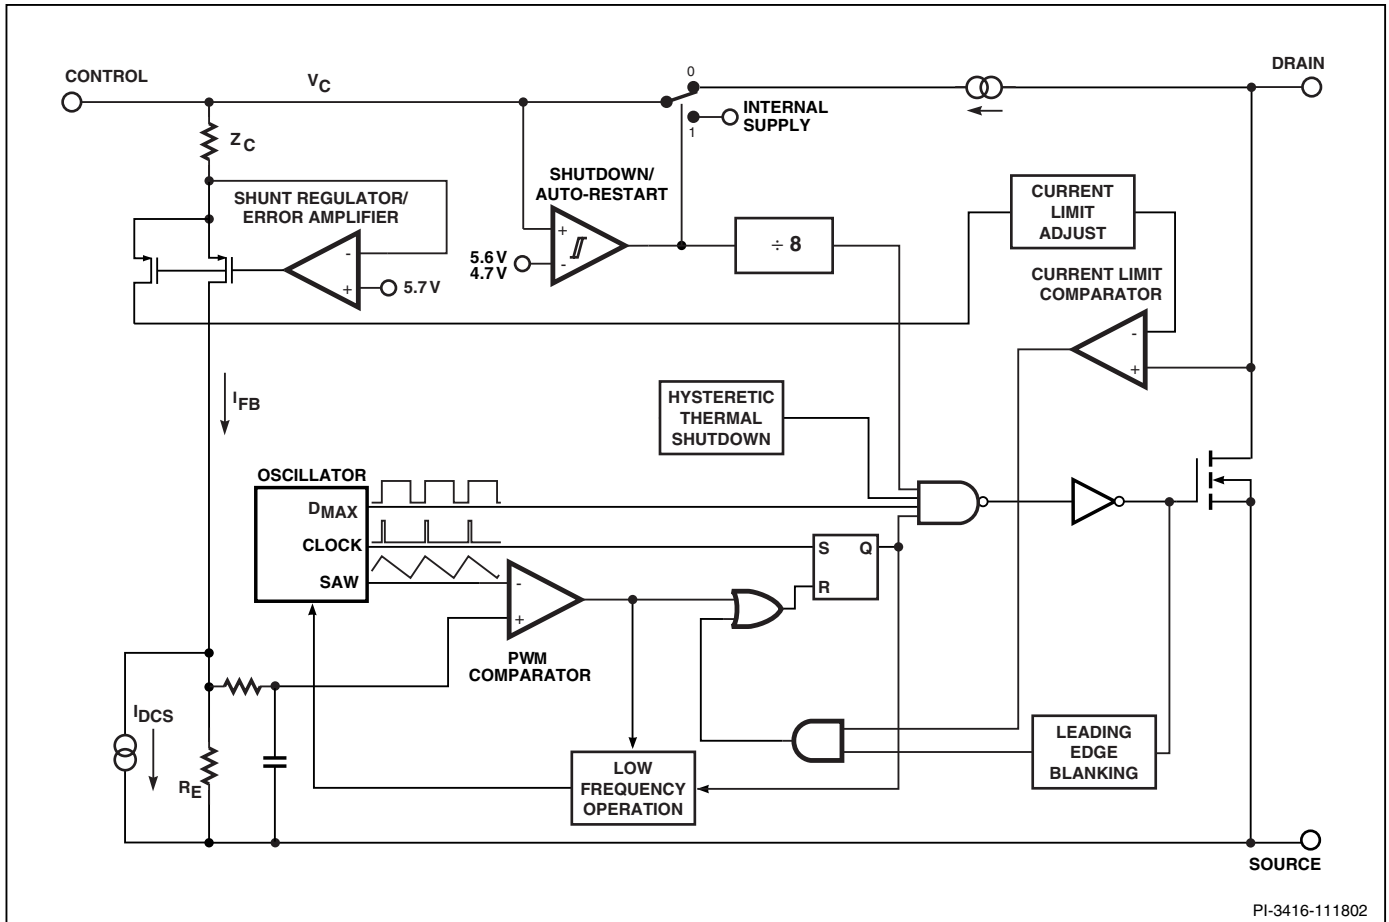
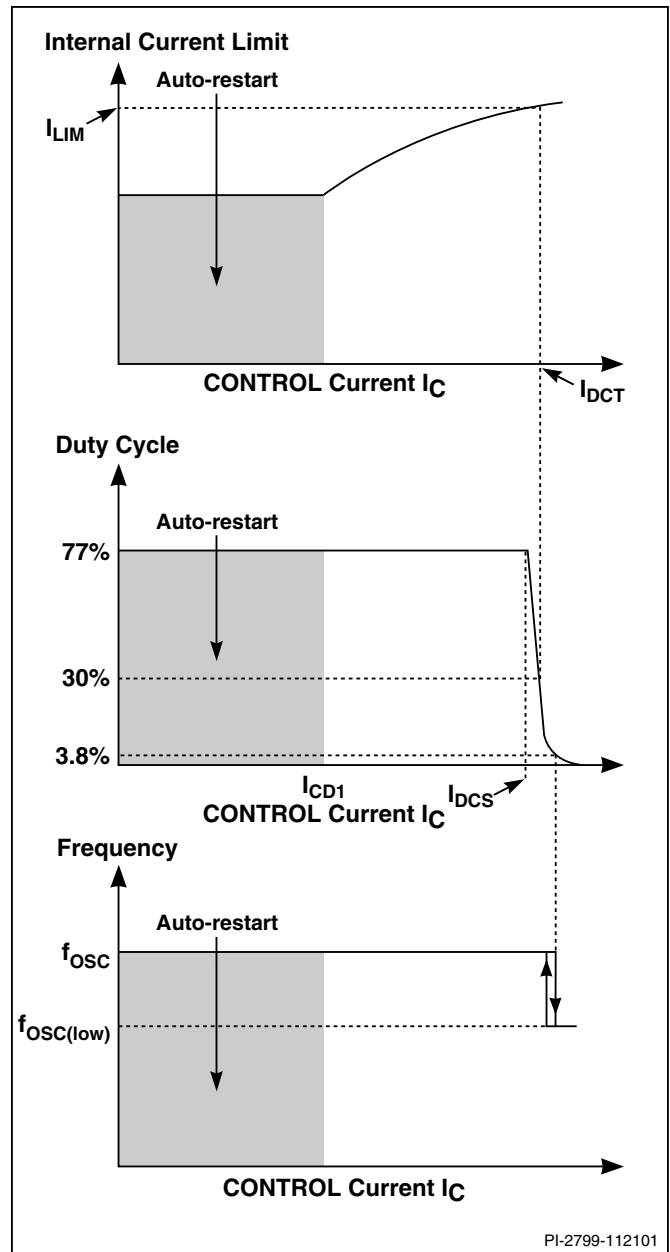
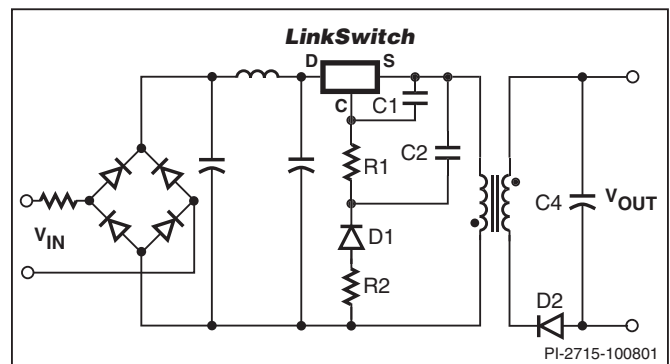
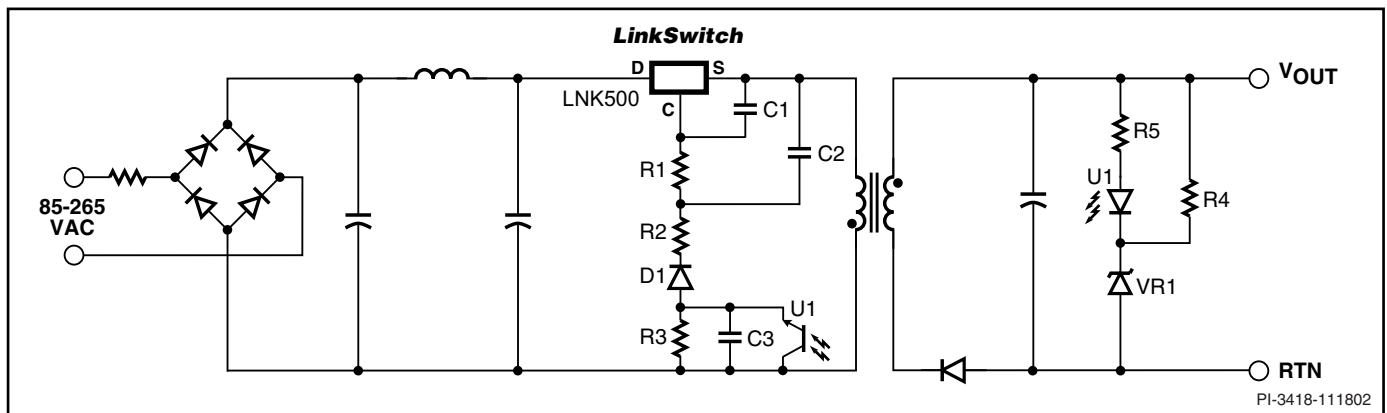

Figure 2. Block Diagram.
Figure 4. CONTROL Characteristics.
Figure 5. Power Supply Outline Schematic.
Figure 6. Power Supply Outline Schematic with Optocoupler Feedback.
The duty cycle, current limit and operating frequency relationships with CONTROL pin current are shown in Figure 4. Figure 5 shows a typical power supply outline schematic which is used below to describe the LinkSwitch operation.
During power up, as  $V_{IN}$  is first applied (Figure 5), the CONTROL pin capacitor C1 is charged through a switched high voltage current source connected internally between the DRAIN and CONTROL pins (see Figure 2). When the CONTROL pin voltage reaches approximately 5.6 V relative to the SOURCE pin, the high voltage current source is turned off, the internal control circuitry is activated and the high voltage internal MOSFET starts to switch. At this point, the charge stored on C1 is used to supply the internal consumption of the chip.
As the output voltage, and therefore the reflected voltage across the primary transformer winding ramp up, the feedback CONTROL current  $I_C$  increases. As shown in Figure 4, the internal current limit increases with  $I_C$  and reaches  $I_{LIM}$  when  $I_C$  is equal to  $I_{DCT}$ . The internal current limit vs.  $I_C$  characteristic is designed to provide an approximately constant power supply output current as the power supply output voltage rises.
When  $I_C$  exceeds  $I_{DCS}$ , typically 2 mA (Figure 4), the maximum duty cycle is reduced. At a value of  $I_C$  that depends on power supply input voltage, the duty cycle control limits LinkSwitch peak current below the internal current limit value. At this point the power supply transitions from CC to CV operation. With minimum input voltage in a typical universal input design, this transition occurs at approximately 30% duty cycle. Resistor R1 (Figure 5) is therefore initially selected to conduct a value of  $I_C$  approximately equal to  $I_{DCT}$  when  $V_{OUT}$  is at the desired value at the minimum power supply input voltage. The final choice of R1 is made when the rest of the circuit design is complete. When the duty cycle drops below approximately 4%, the frequency is reduced, which reduces energy consumption under light load conditions.
Figure 6 shows a typical power supply outline schematic using LinkSwitch with optocoupler feedback to improve output voltage regulation. On the primary side, the schematic differs from Figure 5 by the addition of R3, C3 and optocoupler U1.
The feedback configuration in Figure 6 is simply a resistive divider made up of R1 and R3 with D1, R2, C1 and C2 rectifying, filtering and smoothing the primary winding voltage signal. The optocoupler therefore effectively adjusts the resistor divider ratio to control the DC voltage across R1 and therefore, the feedback current received by the LinkSwitch CONTROL pin.
When the power supply operates in the constant current (CC) region, for example when charging a battery, the output voltage is below the voltage feedback threshold defined by U1 and VR1 and the optocoupler is fully off. In this region, the circuit behaves exactly as previously described with reference to Figure 5 where the reflected voltage increases with increasing output voltage and the LinkSwitch internal current limit is adjusted to provide an approximate CC output characteristic. Note that for similar output characteristics in the CC region, the value of R1 in Figure 5 will be equal to the value of R1 + R3 in Figure 6.
When the output reaches the voltage feedback threshold set by U1 and VR1, the optocoupler turns on. Any further increase in the power supply output voltage results in the U1 transistor current increasing, which increases the percentage of the reflected voltage appearing across R1. The resulting increase in the LinkSwitch CONTROL current reduces the duty cycle according to Figure 4 and therefore, maintains the output voltage regulation.
transistor voltage and dissipation ratings and should be fully tested before finalizing a design. The values of C2 and C3 are less important other than to make sure they are large enough to have very little influence on the impedance of the voltage division circuit set up by R1, R3 and U1 at the switching frequency. Normally, the values of C2 and C3 in Figure 6 are chosen equal to the value of C2 in Figure 5, though the voltage rating may be reduced depending on the relative values of R1 and R2 discussed above. See Applications section for typical values of components.
The output voltage load variation can be improved across the whole load range by adding an optocoupler and secondary reference (Figure 6). The secondary reference is designed to only provide feedback above the normal peak power point voltage to maintain the correct constant current characteristic.
The schematic shown in Figure 5 outlines the key components needed for a LinkSwitch supply.
Since the SOURCE pins in a LinkSwitch supply are switching nodes, the copper area connected to SOURCE together with C1, C2 and R1 (Figure 5) should be minimized, within the thermal constraints of the design, to reduce EMI coupling.